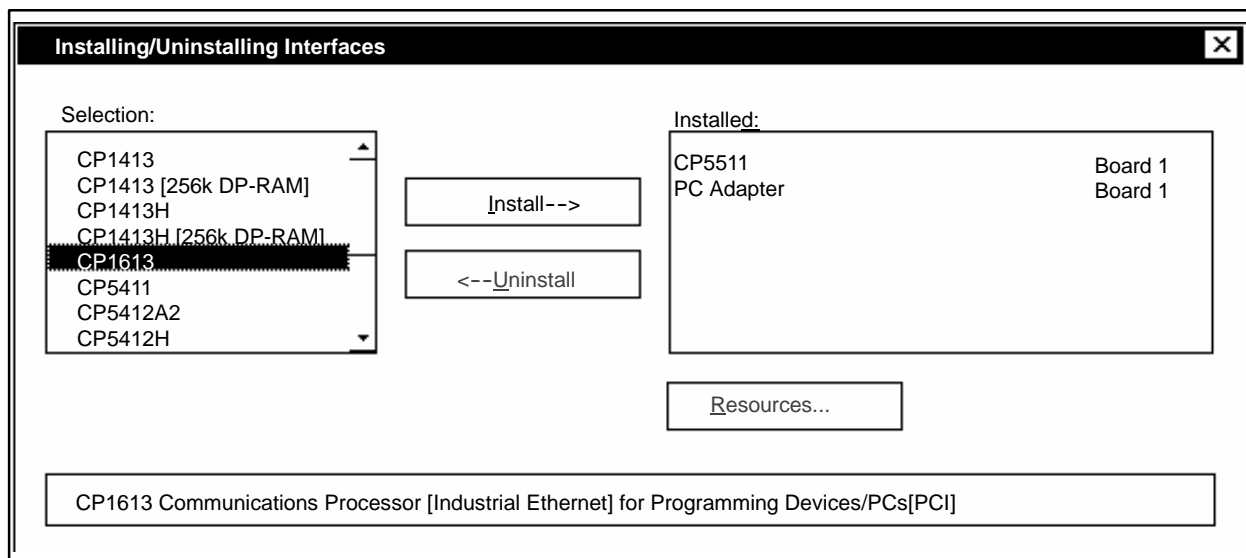

Figure B-9 Adding the CP1613 Card to the PG/PC Interface List
1. Click **Select** on the PC/PG Interface Configurator to bring up the Installing/Uninstalling Interfaces dialog box (Figure B-9).